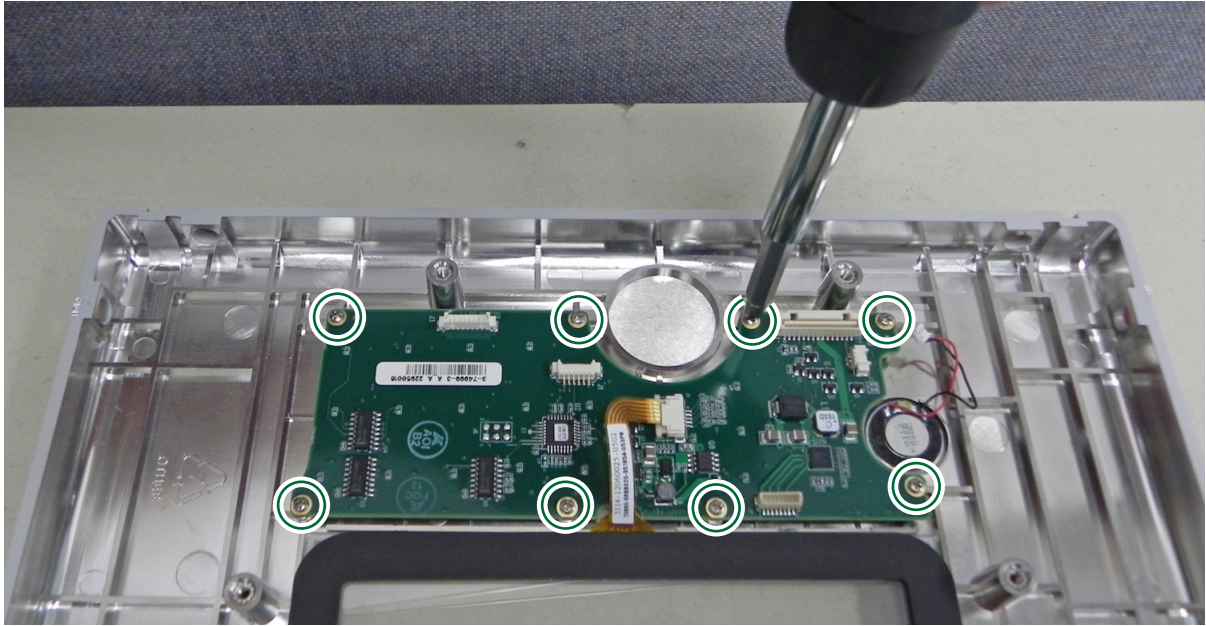

Figure 5-15. Remove Keypad PCB Screws
7. Carefully disconnect the Speaker connector and remove the 8 screws holding the Keypad PCB to the Front Panel Assembly (Figure 5-15).